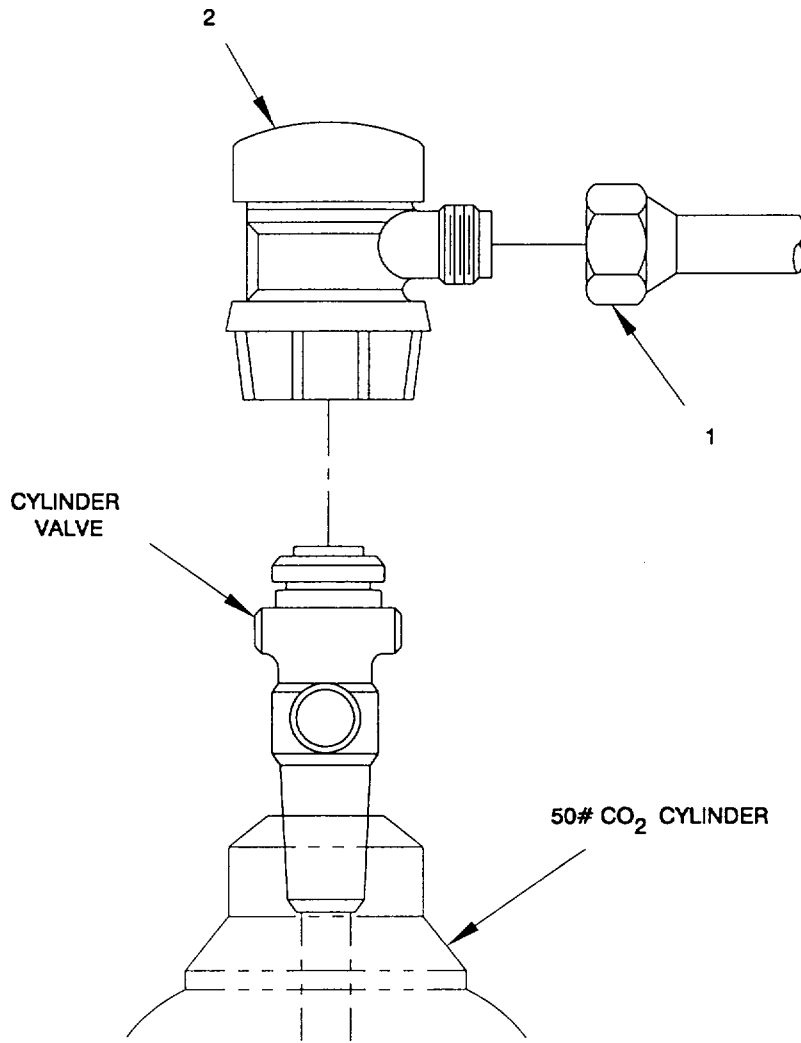

Figure 2-34. Discharge Head, Fire Suppression System, Remove/Install.
a. Remove. (figure 2-34)
- (1) Remove flexible hose (1) from discharge head (2).
- (2) Unscrew discharge head from cylinder valve and discard.
b. Install. (figure 2-34)
- (1) Wipe off cylinder valve sealing surface.
- (2) Verify that preformed packings are installed in the mating surface grooves at the bottom of the swivel nut cavity on the replacement discharge head. Preformed packings must be free of dirt or other contaminants.
- (3) Make certain the discharge port is clean and unobstructed.
- (4) Install replacement discharge head (2) on cylinder valve. Tighten securely.
- (5) Reconnect flexible hose (1) to discharge head and secure tightly.